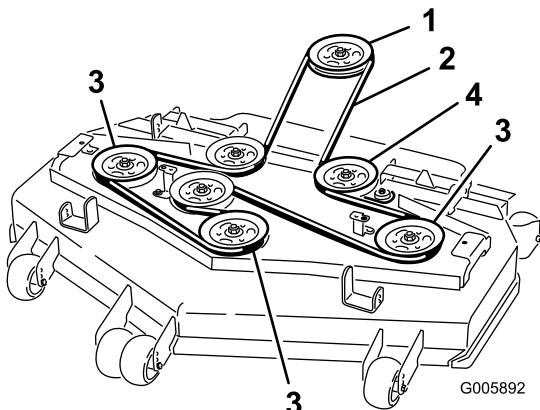

Figure 60
6. Install the new belt on the pulleys (Figure 60).